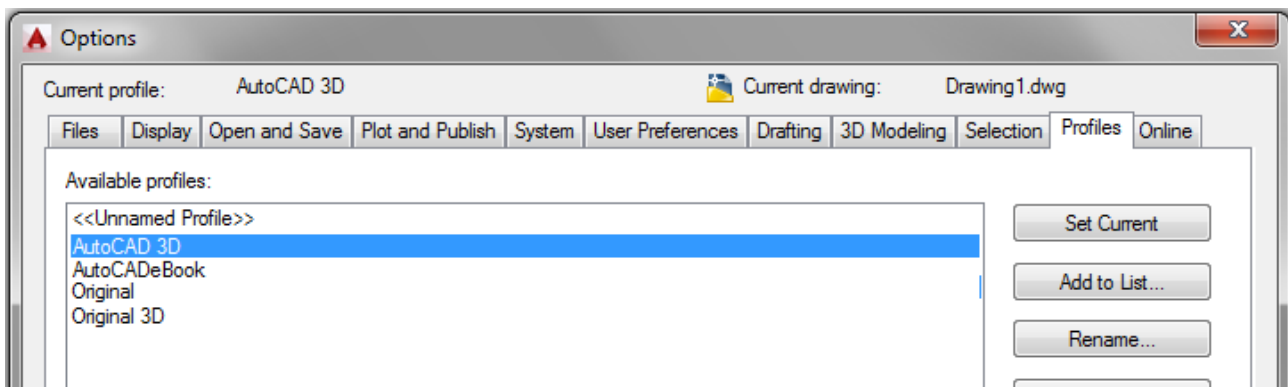

Figure Step 5
Step 5 Click the profile: AutoCAD 3D to highlight it. While it is selected, click the Set Current button. Ensure that the Current profile is: AutoCAD 3D as shown across the top of the dialogue box. (Figure Step 5)